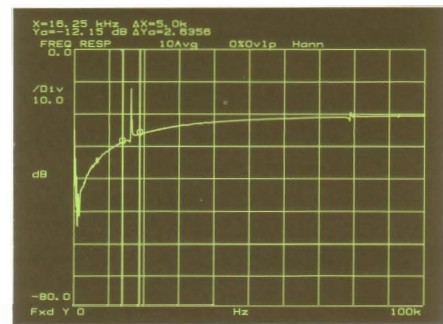

Figure 2-3
**2. Band Marker** In the X-marker softkey menu select **HOLD X CENTER**. This activates the "band marker" capability; turning the marker knob will adjust the width of the band while holding the center frequency constant. The crystal resonator response with the band cursor activated is shown in Figure 2-3.